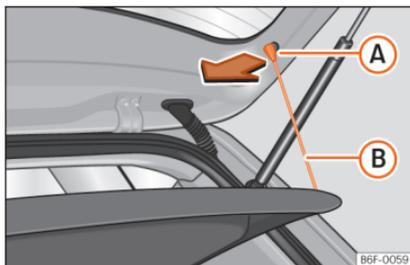

Fig. 108 In the luggage compartment: removing and fitting the shelf.
- Detach the cord loops »»» Fig. 108 (A) from their hooks (A).
- Hook the loops »»» Fig. 108 (B) to the rear lid.